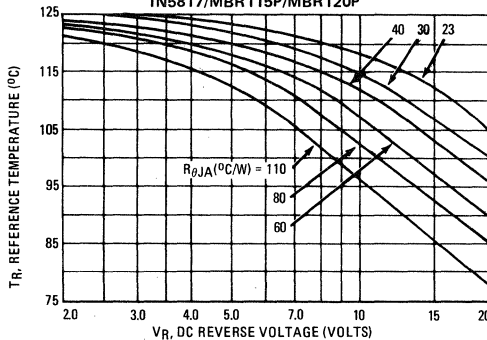

FIGURE 2 — MAXIMUM REFERENCE TEMPERATURE
Step 2. Find T_R from Figure 2. Read $T_R = 109^\circ\text{C}$